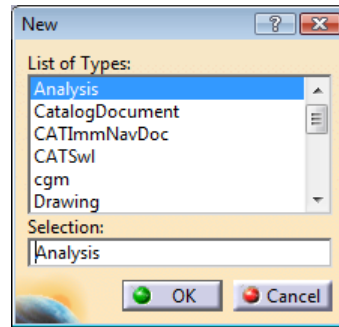

Figure 2-41 The New dialog box
- Choose **File > New** from the menu bar; the **New** dialog box is displayed, as shown in Figure 2-41. Alternatively, choose the **New** tool from the **Standard** toolbar to invoke the **New** dialog box.